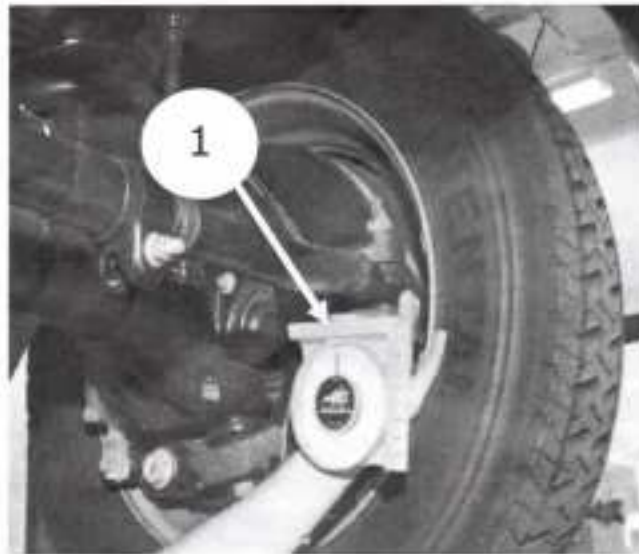

Figure 3 - Inclinometer
4. Mount an Inclinator with a Magnetic attachment (Miller Tool #10326-2) on the flat bottom surface of the adapter in the fore-aft orientation (Fig. 3).